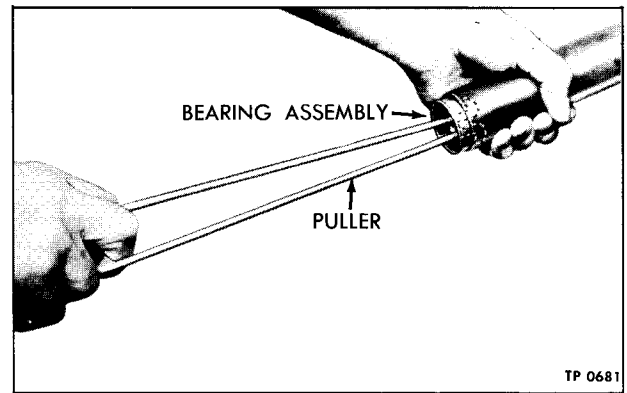
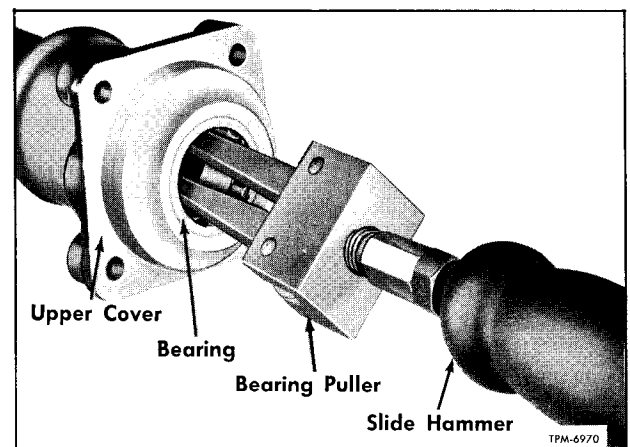

Figure 6—Removing Steering Shaft Upper Bearing
Figure 7—Removing Bearing from Upper Cover
8. If not previously removed in step 7 above, remove steering shaft upper bearing from tube (1), using puller (J-489) (fig. 6).
9. Disassemble upper bearing by removing retainer ring (39); then remove washer (40), packing (41), outer race (42), 14 balls (43), and the inner race (44).
10. With a suitable puller and slide hammer, remove the bearing assembly (35) from bevel gear upper cover (1) (fig. 7).
11. Remove housing vent assembly (5) and reducing bushing (3) from upper cover (1).